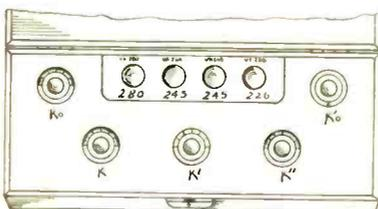
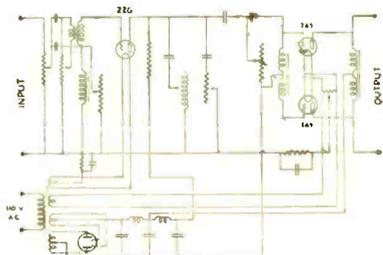
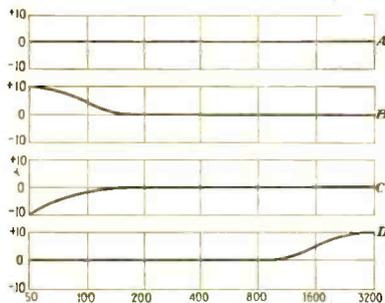
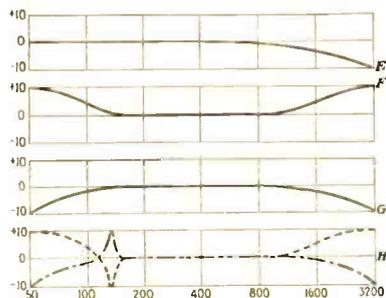

Fig. 2. Location of controls in panel.
Fig. 3. Complete wiring diagram including rectifier.
Fig. 4. Reproduction characteristics.
Fig. 4A. Effect of tuned shunt.
A compensated amplifier, used according to the first method, was built and installed in the audition room of the Columbia Broadcasting System at 485 Madison Avenue, New York City. Fig. 1 is a schematic diagram of the circuit, and Fig. 2 shows the location of the controls in the top panel, while Fig. 3 gives the complete wiring diagram, including the a-c. apparatus and rectifier circuits.
K' , Fig. 2, while the bass control is adjusted by means of knob K and treble control by K'' . The general volume control is governed by the position of knob K_0 and the a-c. switch for the power supply is located at K'_0 . The best values of L'_1 and C'_2 were found by calculation and experiment, and it was decided to alter the tuning only, by means of a control knob (K') the extent of the shunting effect being left without control knob because as a rule it will add unnecessary complications and, after all, the corrections for acoustic resonance periods, etc., need not be very accurate because they are not sharp in the majority of the instances.
By suitable manipulation of the controls—more specifically K and K'' —the following characteristics may be given to the reproduction: (A) Normal; (B) louder bass; (C) softer bass; (D) louder treble; (E) softer treble; (F) louder bass and treble, with normal middle register; (G) softer bass and treble with normal middle register. These characteristics are shown in Fig. 4. The effect of the tuned shunt is shown in Fig. 4A, curve H, where the full line represents the overall level, the dotted line the level without any compensation. The resonance peak occurs at X, and the dot-and-dash line shows the amplifier characteristic including the effect of the tuned shunt.
Having decided all these things we can tackle the resistance-capacity coupling. Fig. 4 shows the equivalent circuit. It consists of a voltage E_p , which is the audio voltage delivered by the detector plate to the coupling circuit. In series with this we have the r_p of the tube, 22,000 ohms. The rest of the circuit looks unfamiliar, but it will be seen to be identical with the resistance coupling circuit in Fig. 2. It is drawn in this manner to indicate that the circuit is really a voltage divider, only part of the voltage E_p being delivered across the points ab since part of it is lost in the resistance r_p ; and again, only part of the voltage across ab is delivered to the resistor r_g , since part of it is lost in the coupling condenser C.